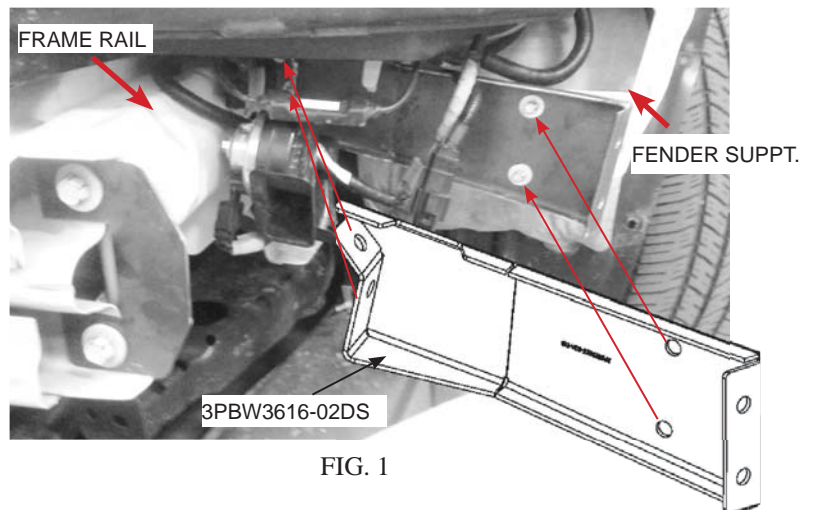

FIG. 1
- A. Fasten rear bracket 3PBW3616-02DS using the OEM bolts at the locations at the frame rail and fender support shown in Fig 1. Repeat for the passenger side.